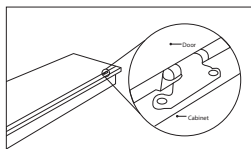

Figure 3
- g) Attach the hinges to the cabinet using the remaining hinge mounting screws. (see Figure 3)